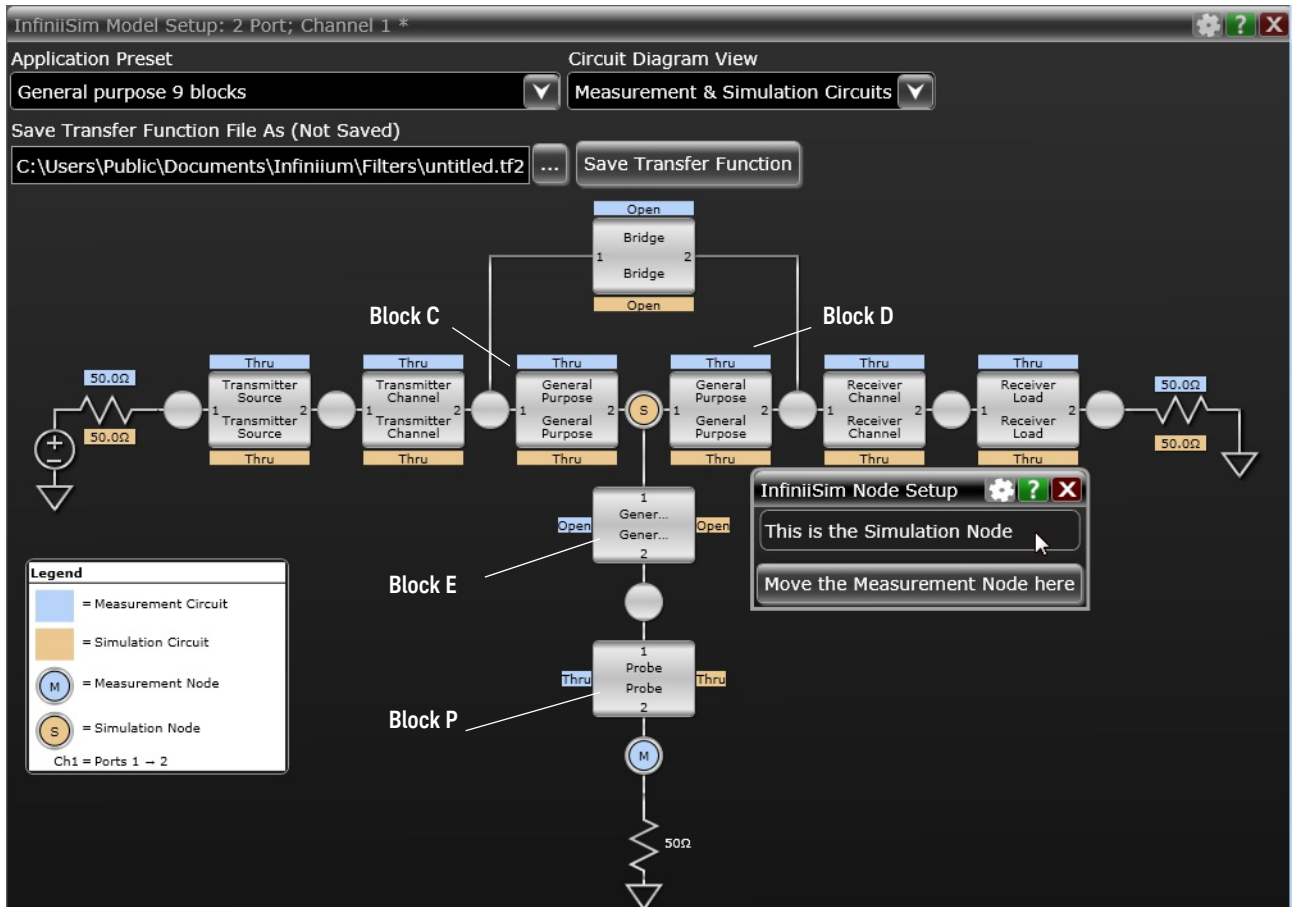

Figure 13 Simulation Node - 2 Port Channel 1
- 8 Create a Simulation Node as indicated in the diagram in Figure 13 below.